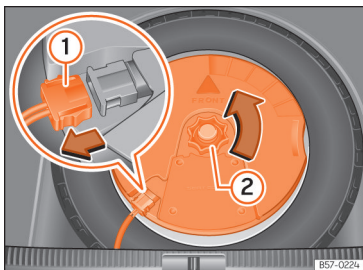

Fig. 242 In the boot: remove the subwoofer.
- Disconnect the subwoofer's speaker cable >>> **Fig. 242 ①**.
- Turn the securing wheel anti-clockwise >>> **Fig. 242 ②**.